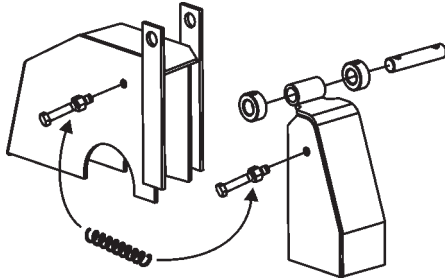

Figure 5. Blade Guard
**CHECK** the following on the "blade guard" (Figure 5):